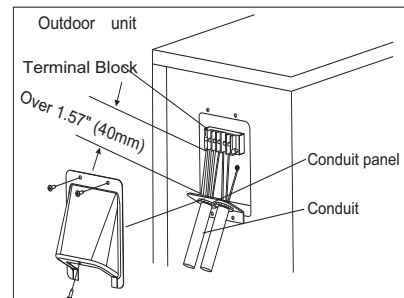

Fig. 19 – Field Wiring
5. Connect conduit to conduit panel (see Fig. 19).